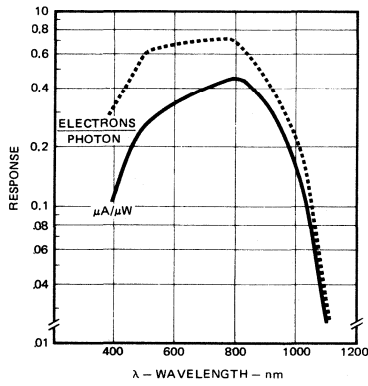

Figure 1. Spectral response.
- (1) Response at 770 nm may be described as a RESPONSIVITY,  $R \approx 0.5 \mu\text{A}/\mu\text{W}$  corresponding to a quantum efficiency,  $\eta \approx 0.75$  electron/photon (see Figure 1).
- (2) Specification includes lens effect.
To obtain the response at a wavelength other than 770 nm, the relative spectral response must be considered. Referring to the spectral response curve, Figure 1, obtain response, X, at the wavelength desired. Then the ratio of the response at the desired wavelength to response at 770 nm is given by: